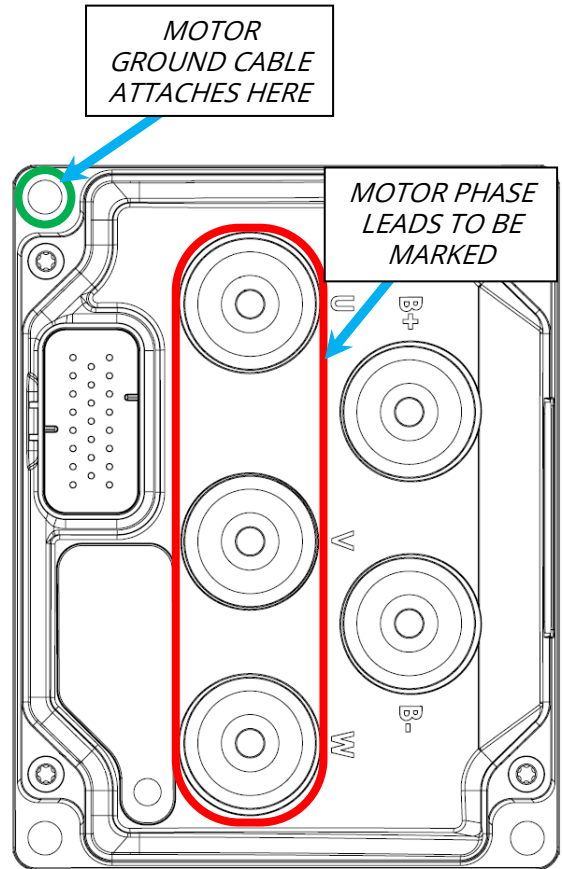

Figure 9: Components of a Curtis drive
- ii. **IF** no label attached to each motor lead, **THEN LABEL** each cable as U, V, or W based on their connection post designation (Fig. 9).